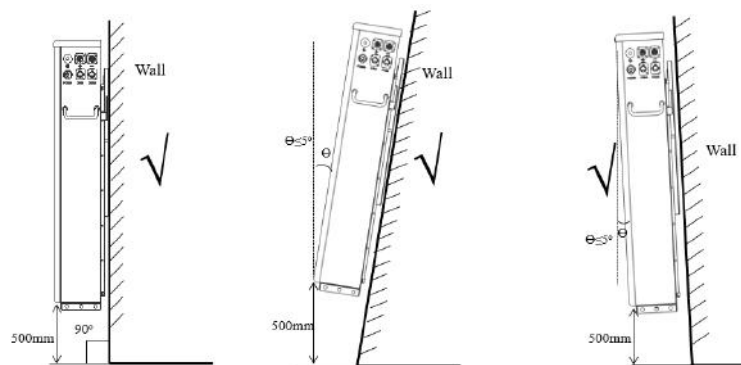
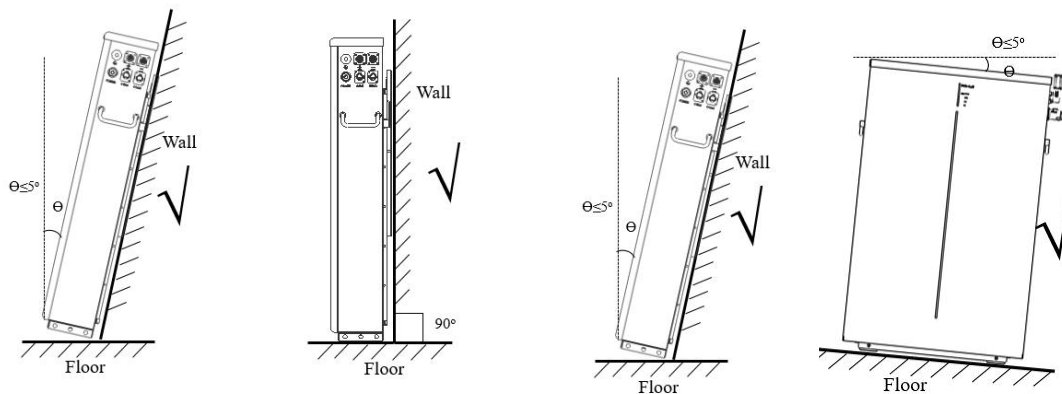
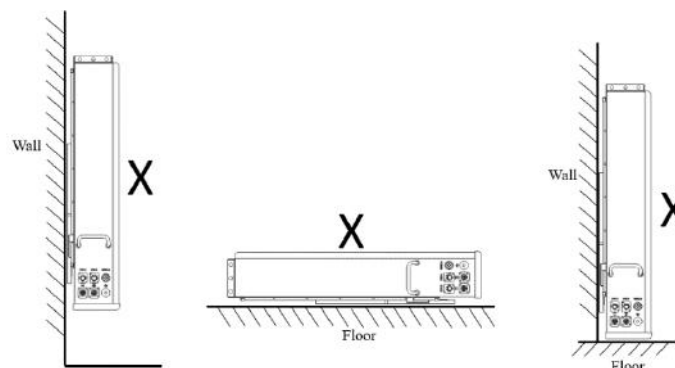

Figure 7: Acceptable wall mounted installation
Figure 8: Acceptable floor standing installation
Figure 9: Prohibited installation
- A deviation of $-5^{\circ} \leq \theta \leq 5^{\circ}$ is allowed for both installation against wall and floor. Additionally, the distance between the bottom part of PACK and the floor should not exceed 500mm. Please refer to figure 7, Figure 8 and Figure 9 (✓ means acceptable installation and X unacceptable)